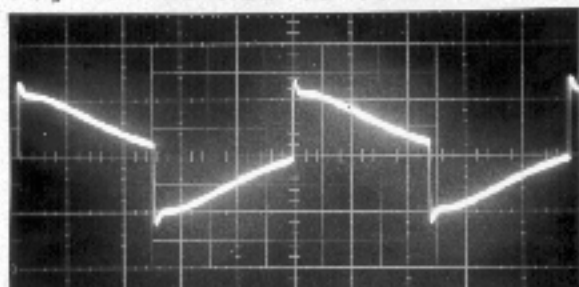
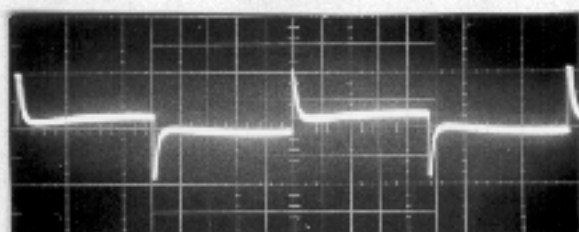

Fig. 6. Lo-Mid to 10.
Fig. 7. Lo-Mid to 0.
- C) Lo-mid to 10-Fig.6;Lo-mid to 0-Fig.7